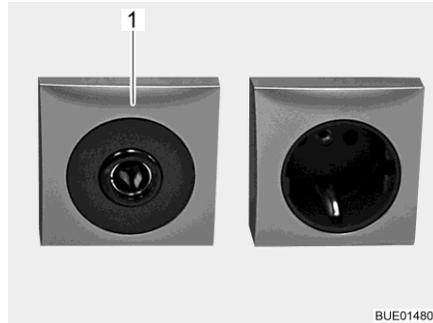

Fig. 117 12 V/10 A socket
- ▷ Only connect devices with a maximum of 10 A to the sockets (Fig. 117,1) of the 12 V power supply.